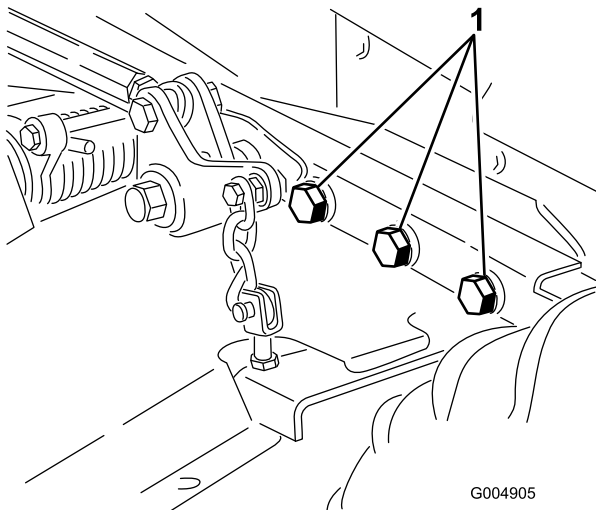

Figure 87
4. Check all fasteners for looseness and tighten them as necessary. Torque the 6 bolts securing the mower deck frame to the traction unit (Figure 87) to 359 N·m (265 ft-lb).